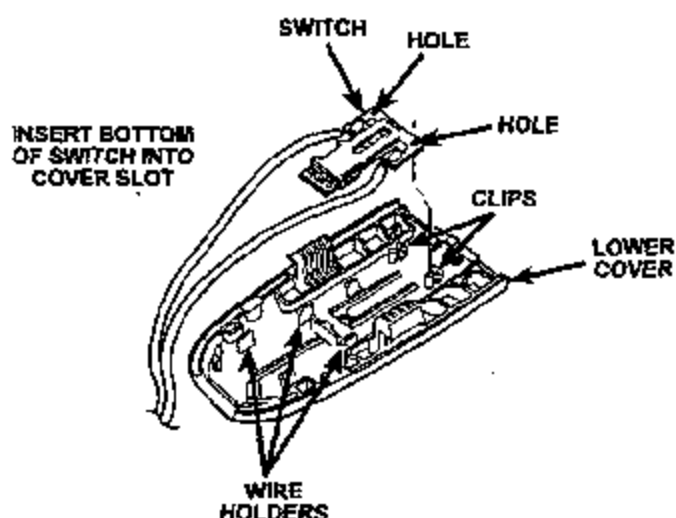

Figure 12
18. **Driver's Side Buckle Only:** Install the original seat belt switch into the provided lower cover. Insert the bottom of the switch into the lower cover slot and then press the top of the switch into place under the two clips (Figure 12). Secure the switch wires in the lower cover wire holders.